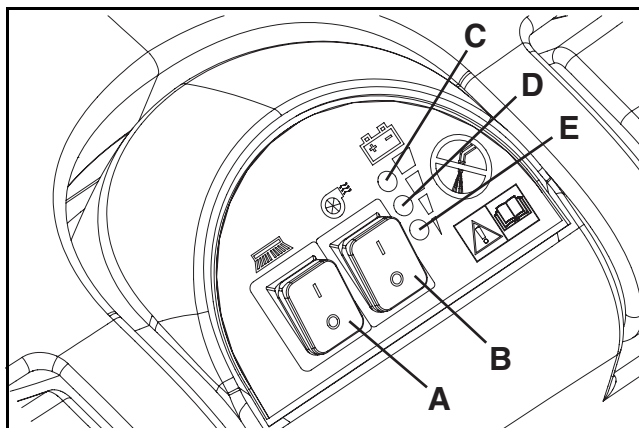

Figure 14
4. Turn the switches (A and B, Fig. 14) to the "I" position.
If the green indicator light (C, Fig. 14) turns on, the machine is ready to be used.
7. Turn the switches (A and B, Fig. 14) to the "0" position.